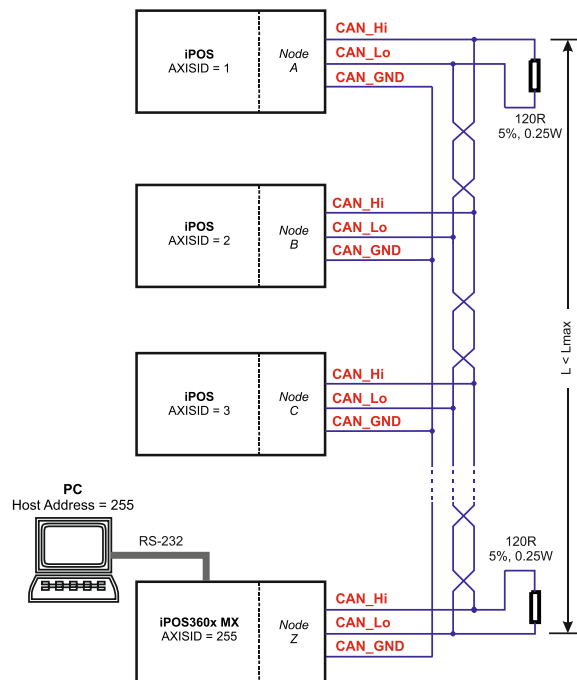

Figure 3.23. Multiple-Axis CAN network
1. The CAN network requires a 120-Ohm terminator. This is not included on the board. Figure 3.23 shows how to connect it on your network